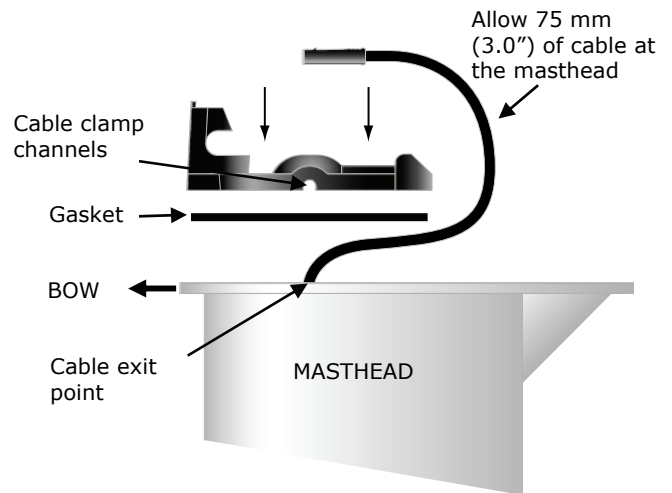

Fig. 1 – Drilling exit hole for cable
- 2 Drill the fixing and cable exit holes as marked – the masthead bracket incorporates a cable clamp to secure the cable and provide strain relief (Fig. 1)